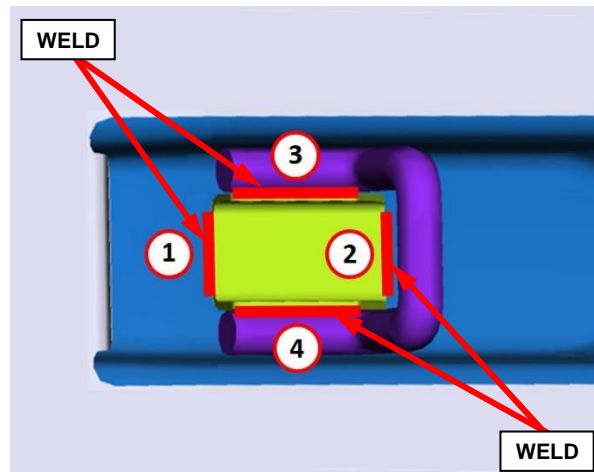

Figure 24 – Reinforcement Bracket Welding Sequence
8. Welding sequence is shown in (Figure 24). Apply a fillet weld along the prepared surface. The weld along the seat striker rod shall begin at the rod end and continue to its bend tangent point.